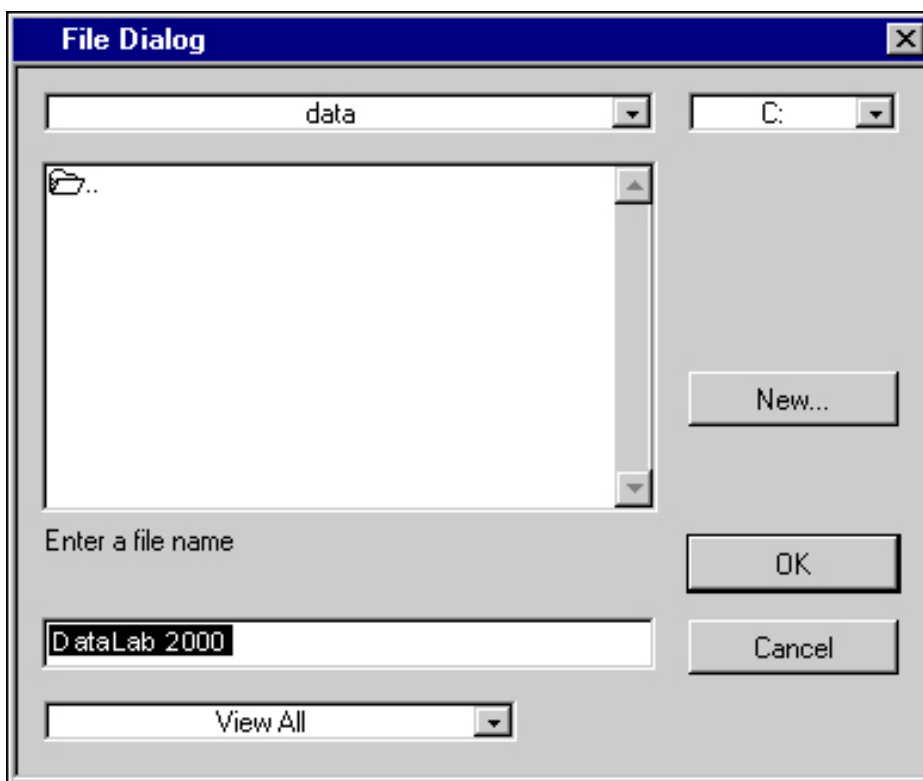

Figure B-4. File Dialog Box
9. Enable data logging by clicking on the Log Data checkbox in the Logging area in the data acquisition view. DataLab 2000 displays the dialog box shown in Figure B-4, prompting you to name the data file.